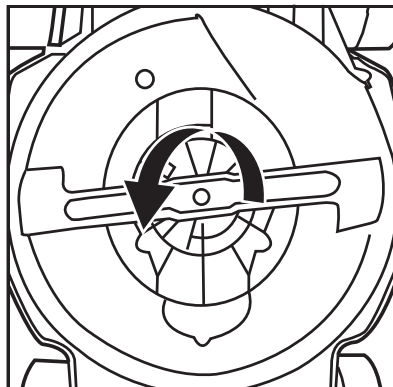

Fig. 16
4. Undo the fastening bolt (Fig. 16).